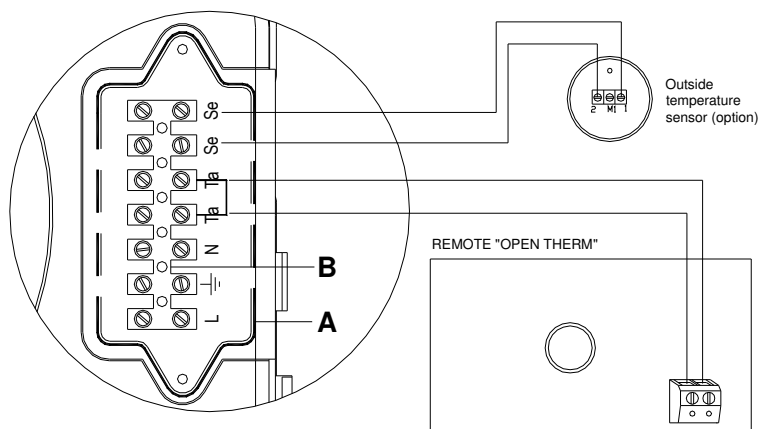

Fig. 1
- c. slacken the screws and remove plate A (see fig.1).
- slacken the screws and remove plate A (see fig.1).
- In case of outdoor temperature sensor only installation, the climatic compensation curve is set using the central heating control knob. As the knob (see fig. 2) is rotated, the numbers corresponding to the curve shown in figure 1 are displayed
The factors governing the correction are reported in figure 1.